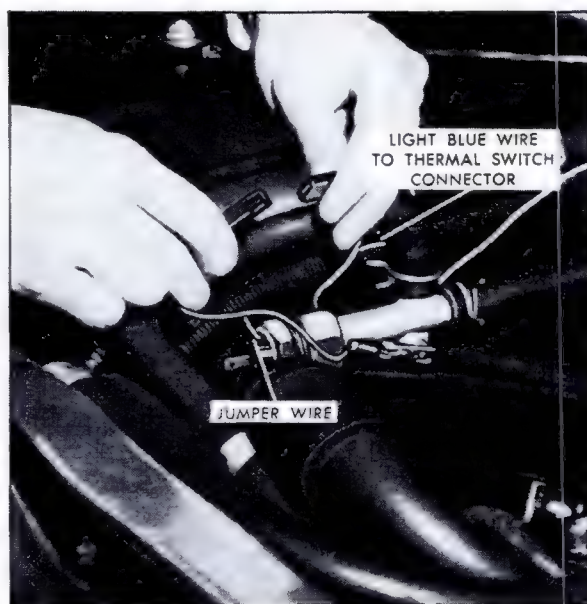

Fig. 15-52 Grounding Thermal Switch Connector
2. Detach connector at thermal switch (black wire) and attach a jumper wire from thermal switch connector to ground, Fig. 15-52.
4. Touch ground end of jumper wire to a good ground. Relay should click. If it does, proceed to step 10. If not, proceed to step 5. Attach jumper wire to ground, Fig. 15-52.